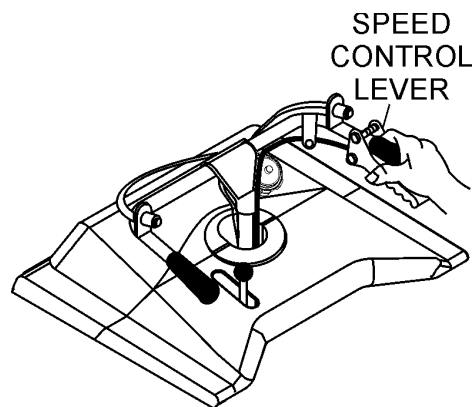

Figure 18. Speed Control Lever
- Check the speed control lever (Figure 18) located on the right side of the handle bar. The speed control should work freely when squeezed by hand, and return to the **neutral** position when released.
5. Slowly squeeze the speed control lever slightly (Figure 18), for a short period of time to test the brake holding capacity. If the buggy moves forward, adjust the brakes as outlined in the maintenance section of this manual.
2. Squeeze the speed control lever (Figure 18) slightly until the buggy begins to move in a forward direction. Initially, let the buggy travel at about 3 MPH.